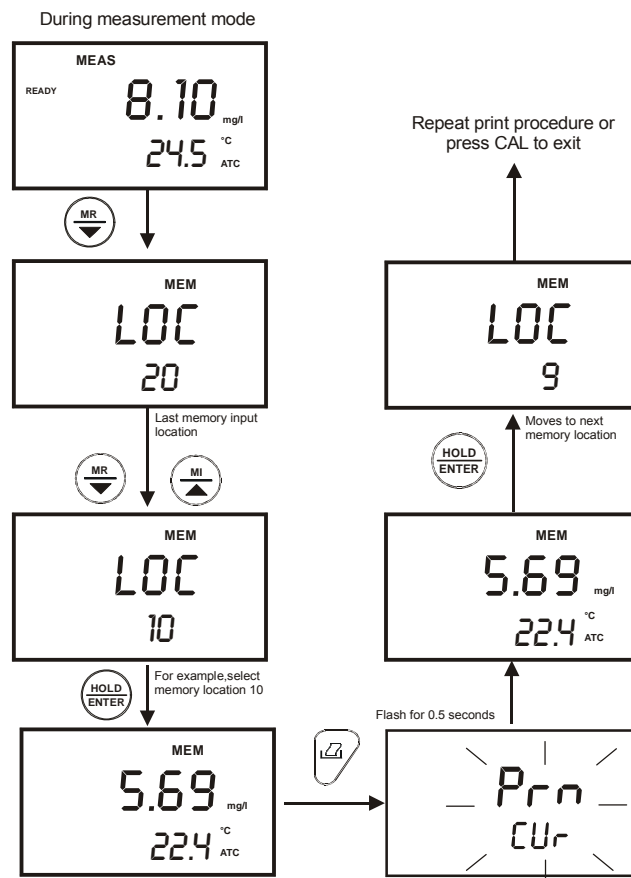

Figure 13: Print based on selected stored data from memory
6. Press HOLD/ENTER key. The meter is now ready to recall the next stored data in the following memory location. See Figure 13.